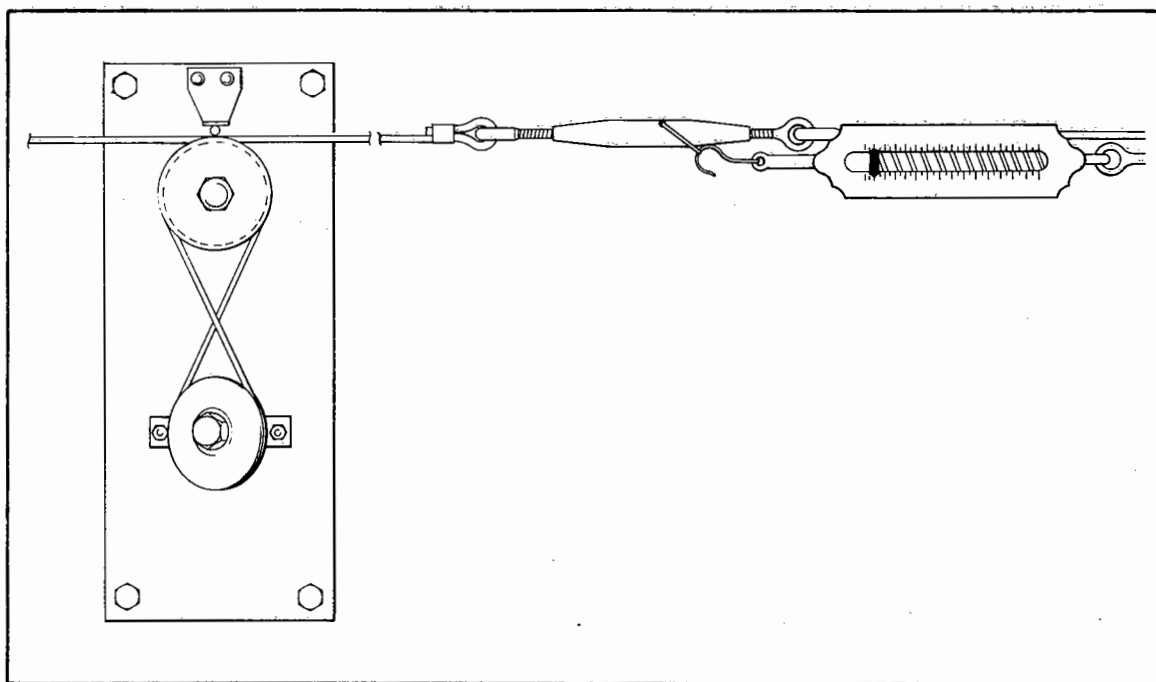

Figure 22-1. III Series Trim Servo Clutch Adjustment
- a. Attach a 0-50 lb. spring scale to the trim tab cable which is attached to the trim servo. (Refer to Figure 22-1.)